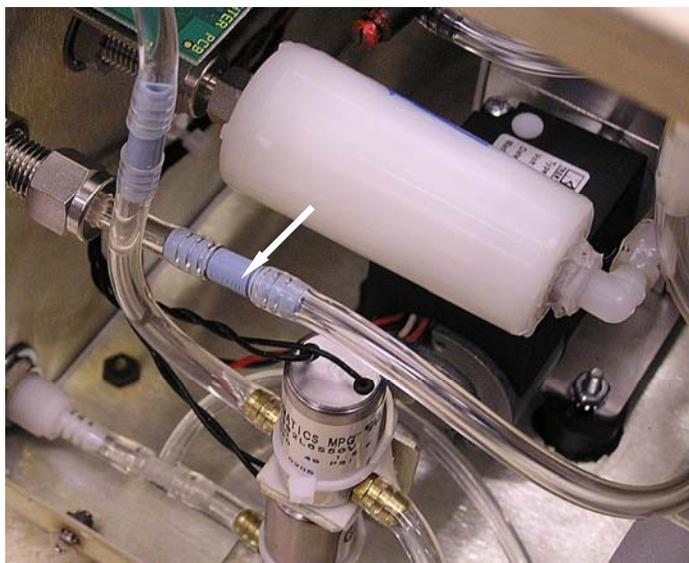

Figure 8-3
The Makeup air filter is identified in Figure 8-3 and is referenced in the flow schematic, Figure 5-1. This filter is used to protect the variable orifice controlling flow at a nominal 1.2 L/min. The Makeup Air Filter is used during the low-flow operation mode. This filter is generally not replaced unless the instrument sample flow is compromised as the filter loads. Makeup air is sampled from ambient environment.
3. Locate the filter in Figure 8-3.